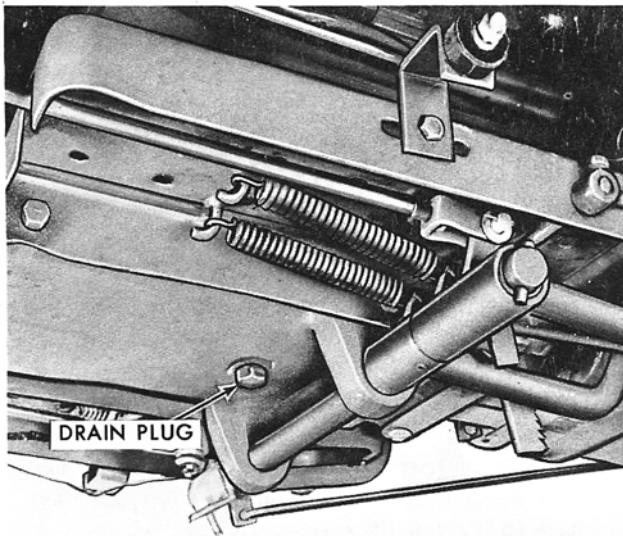

Figure 30
1. With the oil at normal operating temperature, drain and discard the oil by removing the transmission and rear axle drain plugs, Figure 30. Reinstall the plugs after the oil has drained. Discard the oil.